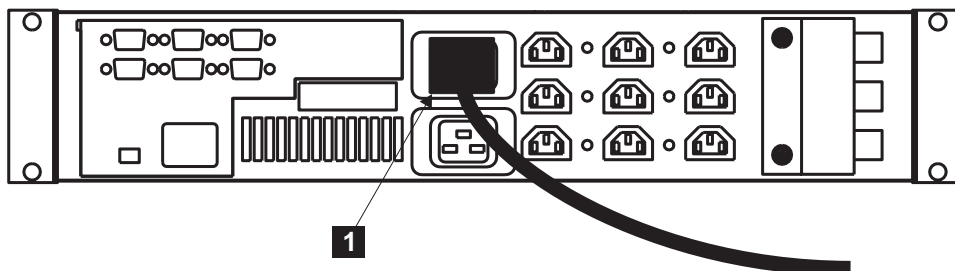

Figure 25. Installing the uninterruptible power supply power cable
8. At the back of the uninterruptible power supply, plug the uninterruptible power supply main power cable into the power socket **1** (see Figure 25).